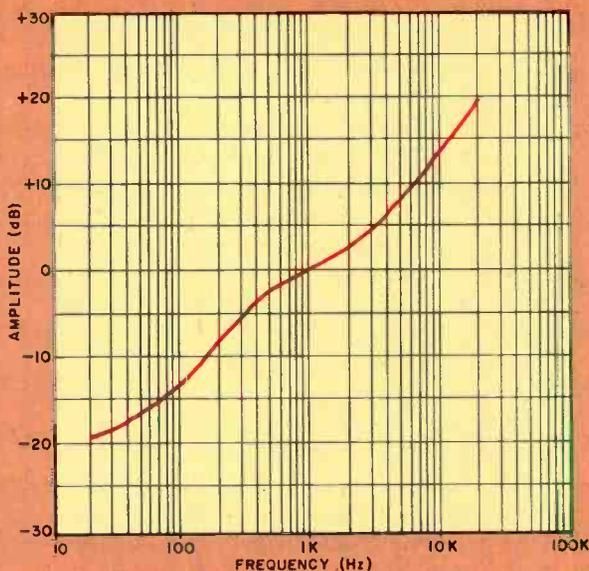

Fig. 1. RIAA recording characteristic boosts highs and attenuates bass.
In a Class D amplifier, the audio input signal is used to vary the pulse width of a 500-kHz pulse train (Fig. 1). The reduced duty cycle of the amplifier section results in higher efficiency than with Class B operation. An integrating network "reads" the average width of pulses and reconstitutes the audio signal waveshape. The high-frequency "sawtooth" edges of the restored waveform are inaudible.
*Fig. 1. With the class D switching power amplifier shown above, signal (A) at left modulates pulse (B) to give pulses of varying width (C). These are then integrated to create replica of the original signal (D).*
Phono preamplifiers differ from other preamplifiers only in their frequency response, which is specially tailored to compensate for (equalize) the recording characteristic. If a fixed-amplitude signal is recorded on a phonograph disc while its frequency is varied from 20 to 20,000 Hz, the result will have a playback response curve similar to that in Fig. 1. This plot of phono cartridge output (amplitude) versus frequency indicates a dramatic alteration of the fixed amplitude input signal. *Playback equalization*, which is performed by the phono preamplifier, corrects this alteration and recreates the applied flat-amplitude signal. To understand why we must go through this procedure, a consideration of the recording process is necessary.
On the disc, an audio signal's amplitude is deposited in the form of groove modulation amplitude, and its frequency appears as the rate of change of groove modulation. This sounds simple enough, but why isn't the graph of Fig. 1 a straight horizontal line centered on 0 dB? After all, we are applying a signal of fixed amplitude.
Figure 1 shows the pre-equalization of signals to be applied to the cutting head. The equalization curve has this particular shape for two reasons. First, low frequencies are attenuated to prevent cutover. Second, boosting the high-frequency content improves the S/N ratio. Because the driving coils of the cutting head are primarily inductive loads, their impedances are frequency dependent. If a fixed input signal causes a constant voltage to be applied across the coils, the resulting current, and thus magnetic field and rate of change of vibration, become frequency dependent. This is called *constant amplitude* recording.